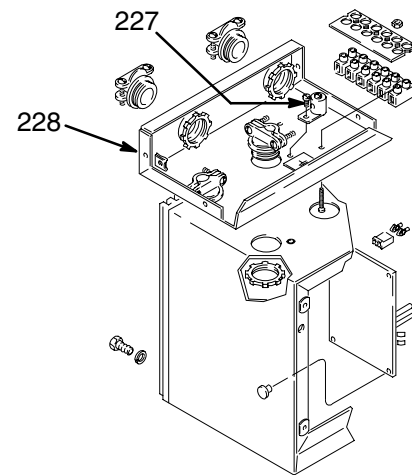

Fig. 5
1. *Heater:* wire the heater to a positively grounded power supply. The heater is grounded through the electrical wiring to a grounding screw (227) in the junction box base (228). See Fig. 5.